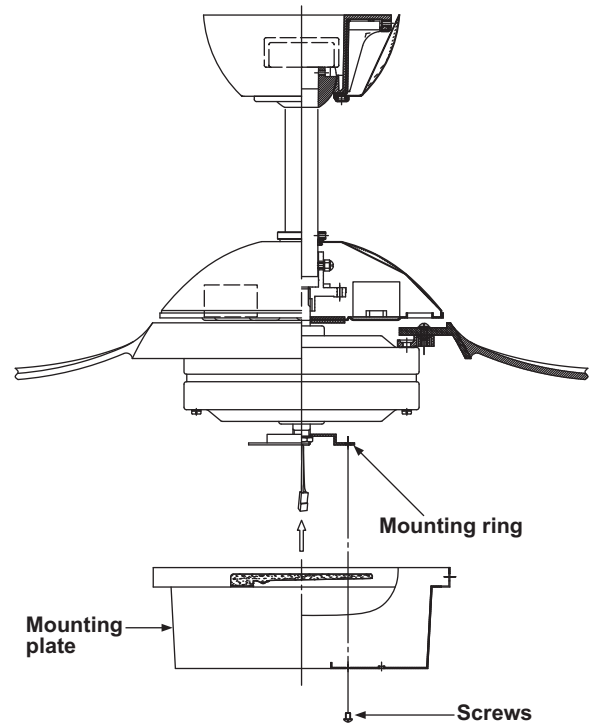

Figure 16
Step 2. Place the key holes on the mounting plate over the 2 screws previously loosened from the mounting ring, turn mounting plate until it locks in place at the narrow section of the key holes. Secure by tightening the 2 screws previously loosened and the one previously removed. (Figure 16)